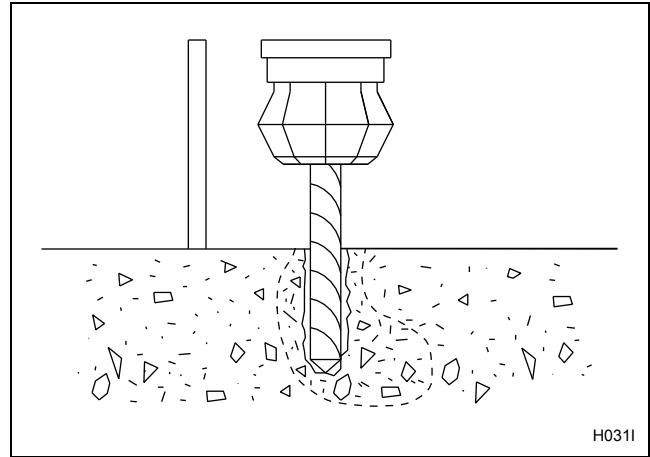

Figure 11
4. Drill and chisel out a conical hole large enough to accept the J-bolt. Refer to *Figure 11*.